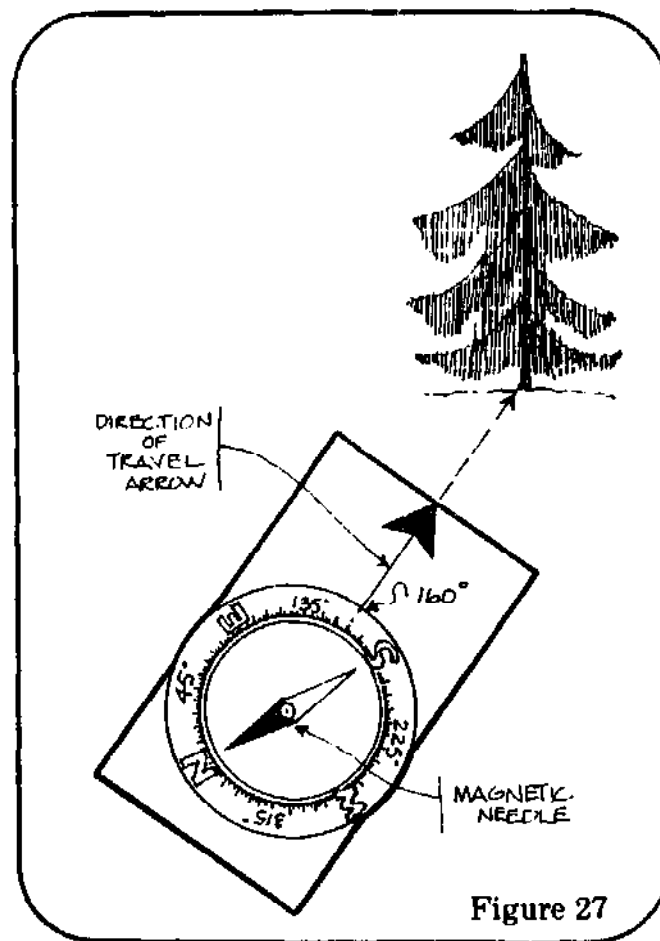

Figure 27
1. Point the direction-of-travel arrow toward the object. (See figure 27.)